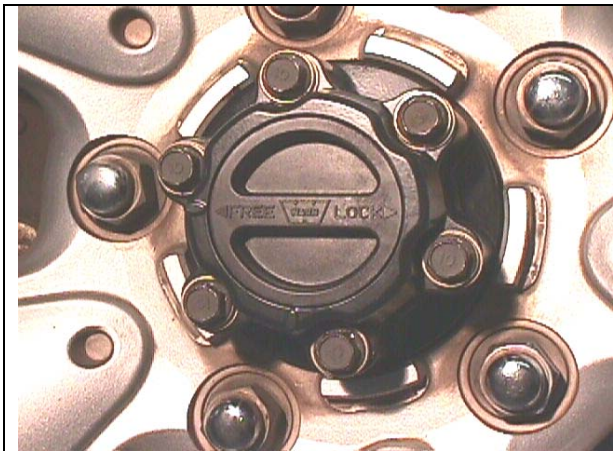
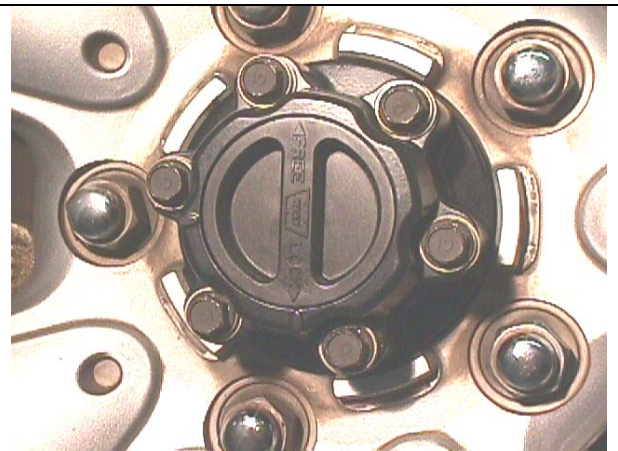

Figure 11
Figure 12
10. Install the manual hublock onto the wheel end. Gently push the hublock into position and align the mounting holes of the hublock with the wheel end as shown in Figure 11. Install the mounting bolts, and lockwashers. Discard the flat washer and use only the lockwasher. If your hublock set came with a bolt kit, use these bolts as the original bolts will be too long. Torque the mounting bolts 3.0 to 3.5 kg-m (21-25 lb-ft).
To put the hublocks in the 4x2 or “Free” position, dial the hublock dial counter clockwise until the “Free” arrow aligns with the outer bump on the hublock body as shown in Figure 11. To put the hublocks in the 4x4 or “Locked” position, dial the hublock dial clockwise until the “Lock” arrow aligns with the outer bump on the hublock body as shown in Figure 12. With the hublocks in the “Locked” position, the vehicle can be shifted into and out of four wheel drive at any speed.